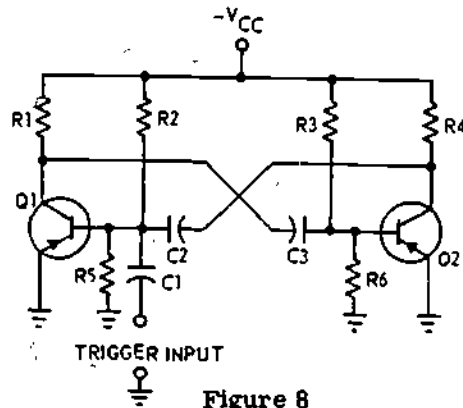

Figure 8
9. The Figure 8 schematic diagram represents a/an _____
10. For proper operation of the Figure 8 circuit, the input trigger frequency must be slightly (higher) (lower) than the free running frequency.
11. Pulse width (cutoff time of Q1) of the output signal from the figure 8 circuit is controlled by the (trigger PRT) (RC time constants).
12. If C1 of the Figure 8 circuit became open, which of the following conditions would exist?